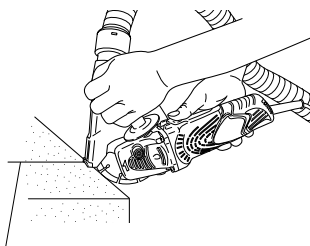

Fig. 6
1. Cutting procedures (Fig. 6)